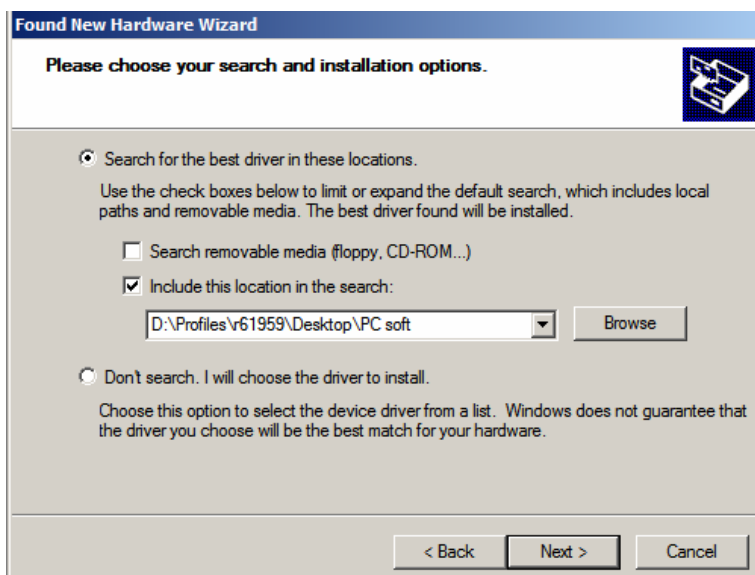

Figure 11. Locate USBICP.INF File
- Specify the directory containing the USBICP.inf file and then click Next as shown in Figure 11.